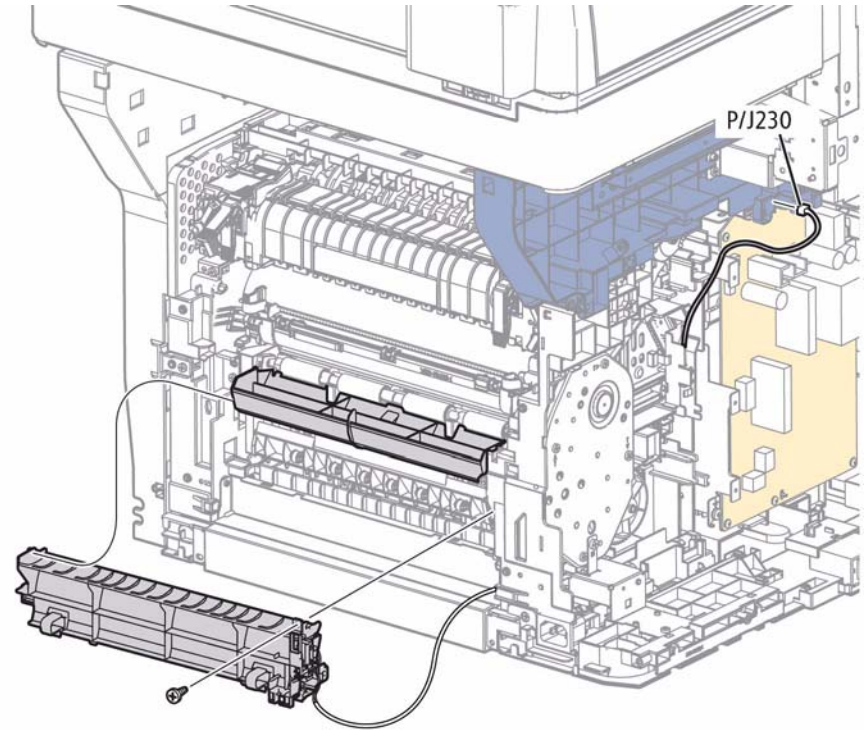

Figure 2 Remove the Rear Interlock Assembly
10. Refer to Figure 2 to locate and remove 1 screw (silver, tapping, 8mm), release 2 bottom hooks, and 1 boss at left end to release the assembly from the chassis.
11. Refer to Figure 2 to locate and disconnect the Rear Interlock Switch Assembly. Release the switch harness from the harness guides along the LVPS and under the Main Drive Assembly to remove the assembly.